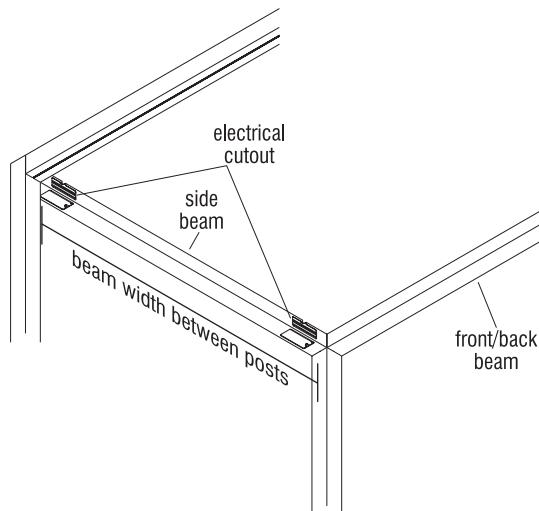

Figure 1 - Measure For Evoke Ceiling Rail
1. Locate the side beam with electrical cutouts to receive an Evoke Wall panel. Determine which pre-sized ceiling rail is required based on beam width between the posts (Figure 1).
2. Position the pre-sized ceiling rail up under the center of the beam, between posts. Align and center the ceiling rail at the underside of the beam, and install the ceiling rail to the beam using  $1/4\text{-}14 \times 7/8"$  Tek screws provided through each ceiling rail mounting hole (Figure 1 & Detail A).